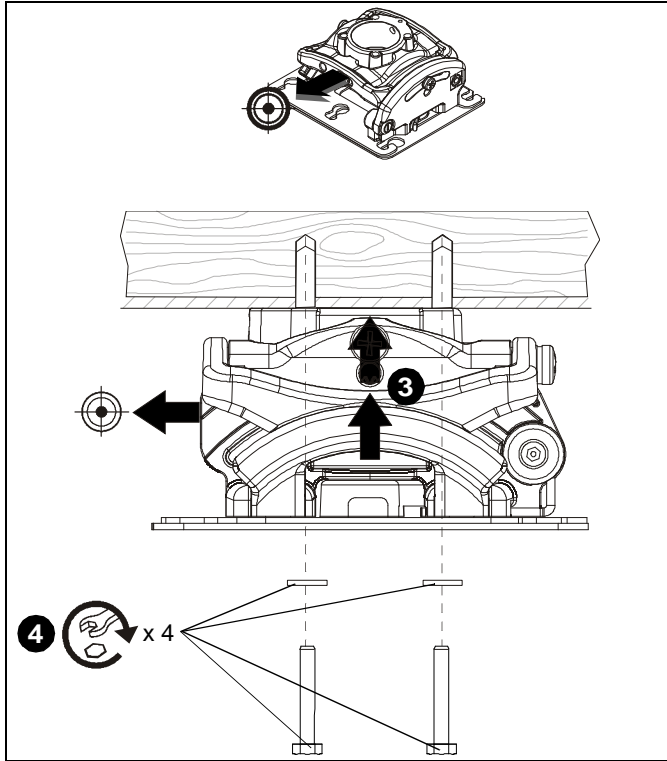

Figure 7
- Secure RPME to structure using four #10-24 x 3" wood screws (not included) and four 1/4" flat washers (not included). (See Figure 7)